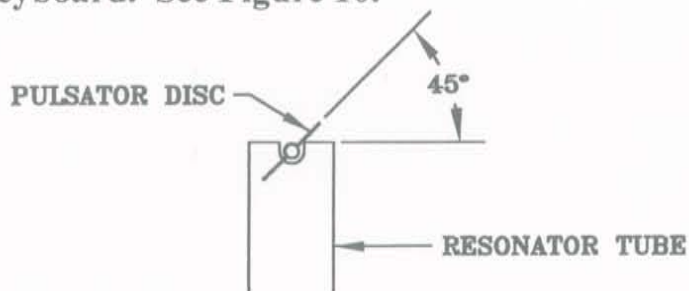

Figure 10
9. It is very important to remember, when your not using the motor, that the Pulsator Discs be set at a 45 degree angle to achieve the most balanced resonance across the entire keyboard. See Figure 10.